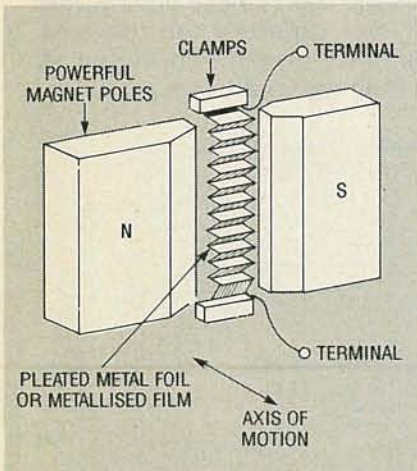

Fig. 2: RIBBON TWEETER in simplified form.
**The Ribbon Tweeter.** This is another old-timer (c. 1923), but there are several current speaker systems using ribbons as tweeters. Simpler in both concept and execution than the ionic and electrostatic tweeters, the ribbon is merely a thin strip of corrugated conducting foil suspended in a powerful magnetic field. In the latest designs, the field is created by groupings of many small magnets epoxied into position, instead of two (or four) large magnets as shown in Fig. 2. Basically, the ribbon can be consid-